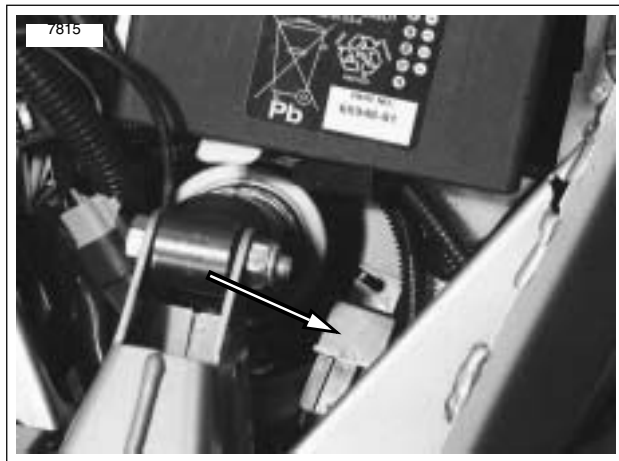

Figure 7-96. System Relay
3. See Figure 7-96. Connect system relay connector [171] to system relay.